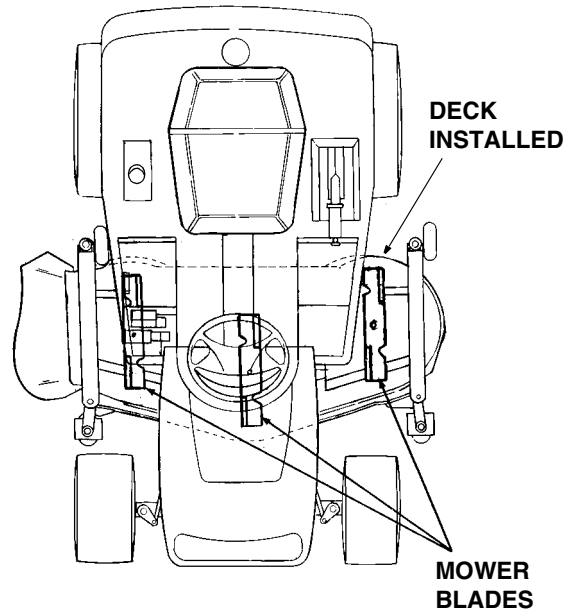

Figure 60
- Position the mower blades so the ends of each blade point to the front and the rear of the tractor (Refer to Figure 60).